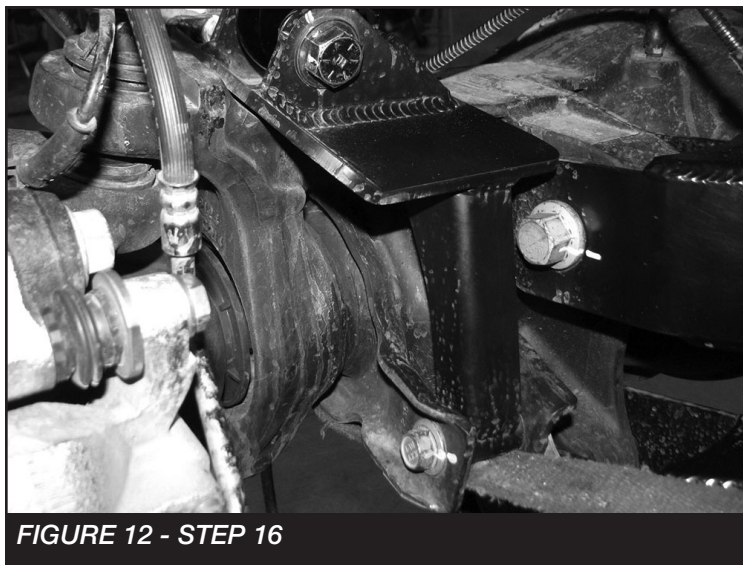

FIGURE 12 - STEP 16
16. Install FT30717 (Driver lower coilover mount) onto the driver side of the axle using the factory shock hardware at the factory shock location and M14 X 30mm bolt and washer at the lower spring perch location. Torque factory hardware to 100 ft-lbs and M14 to 160 ft-lbs. SEE FIGURE 12.